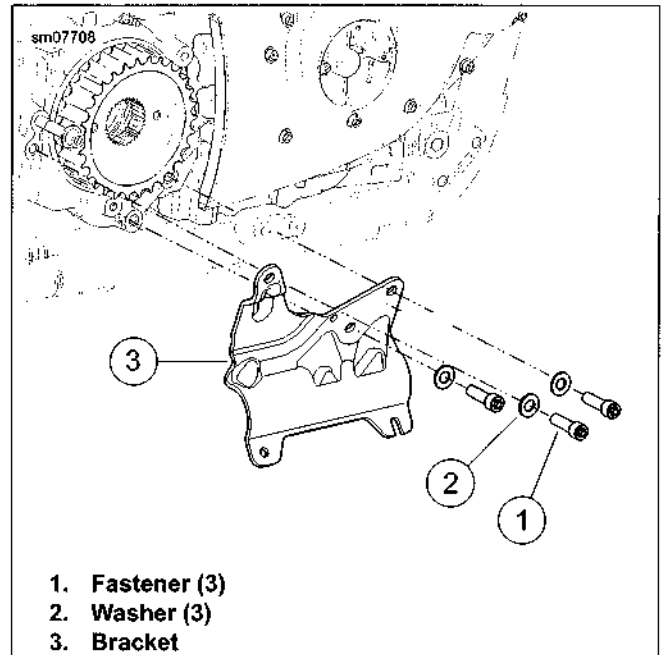

Figure 4-40. Exhaust Mounting Bracket
5. See Figure 4-40. Remove fasteners (1), washers (2) and mounting bracket (3).